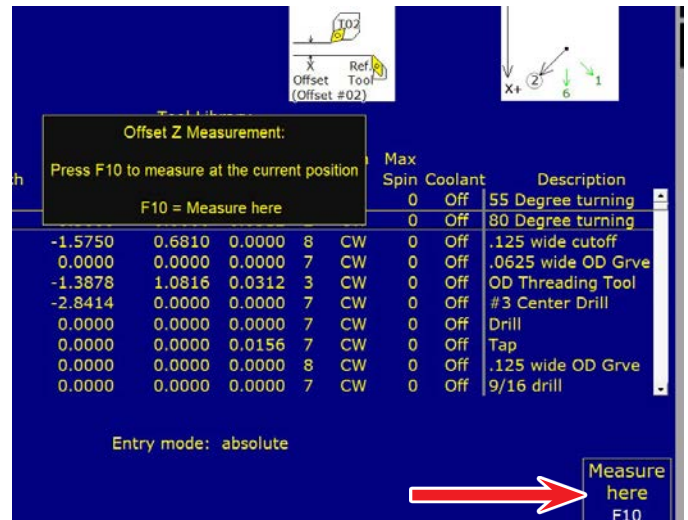

FIGURE 18
4. Then, click on Measure Here F10 (see Figure 18).